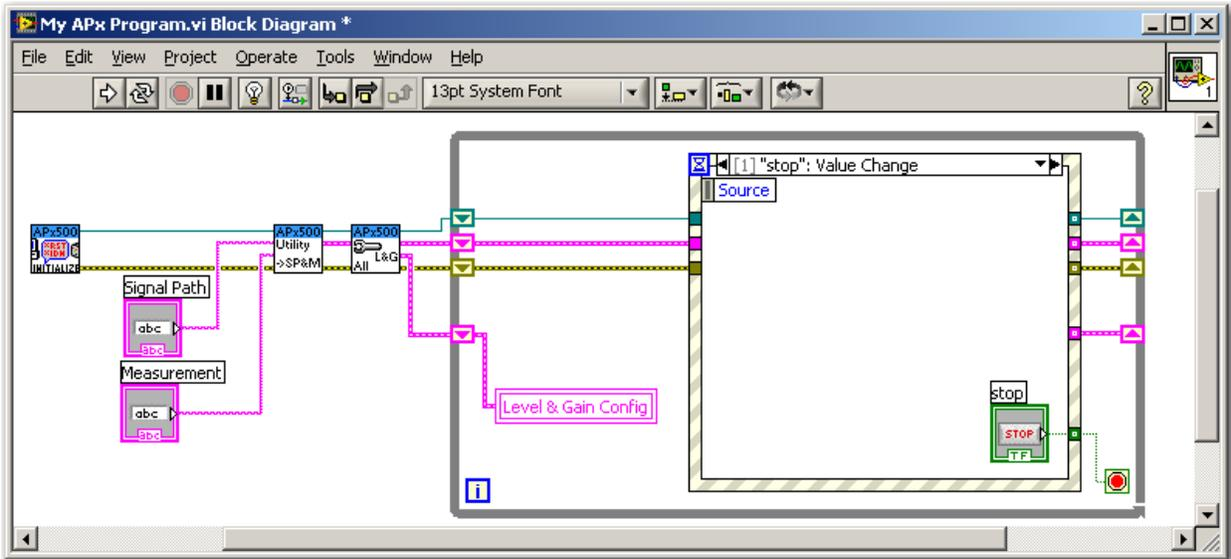

Figure 40
- To make the VI functional, we need to wire something to the conditional terminal of the While loop. Create a stop button by right-clicking on the terminal and selecting Create – Control. Next, create a Stop case in the event structure, move the Stop control’s terminal inside the case and wire it as shown in Figure 40.